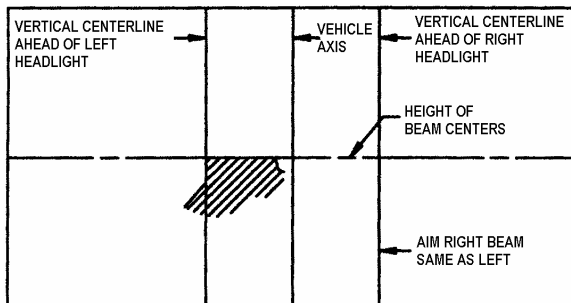

FIGURE 31: HIGH-INTENSITY ZONE (SHADED AREA) OF A PROPERLY AIMED LOWER BEAM ON THE AIMING SCREEN 7.6 M (25FT) IN FRONT OF VEHICLE 06504
6. Low beam headlights are aimed so that the top edge (the cutoff) of the high-intensity zone is at the vertical location as per Table 1 and the left edge of the high-intensity zone is at the vertical centerline of the headlight (Fig. 31).